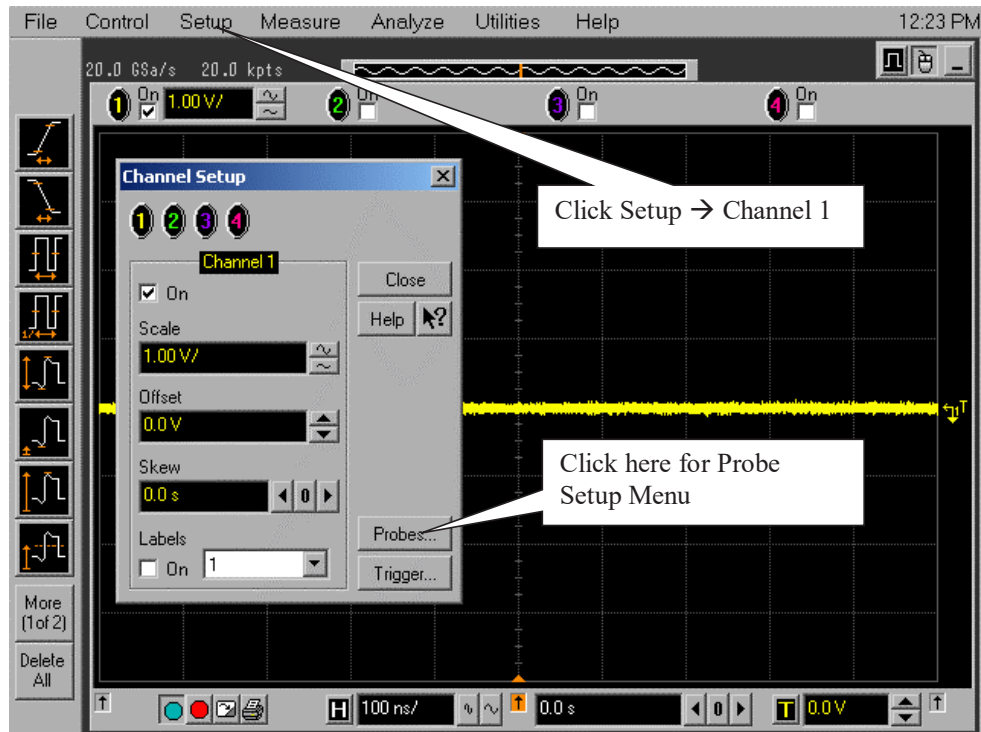

Figure 8 Channel Setup Window.
- 2 Referring to Figure 8 below, perform the following steps:
- 16 Click the Close button on the Channel Setup window (Figure 8 on page 583) to close this window.